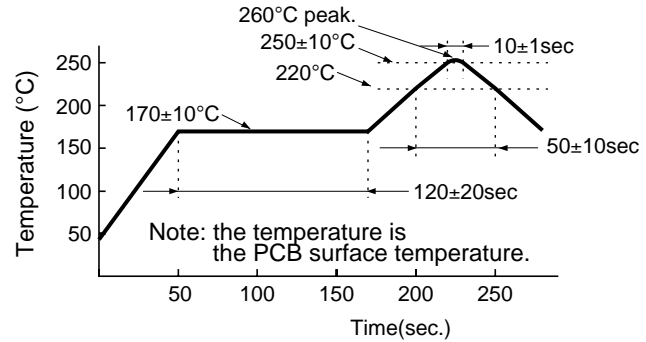

Figure.8
(1) An example of the reflow temperature profile is shown as follows (see Figure 8).